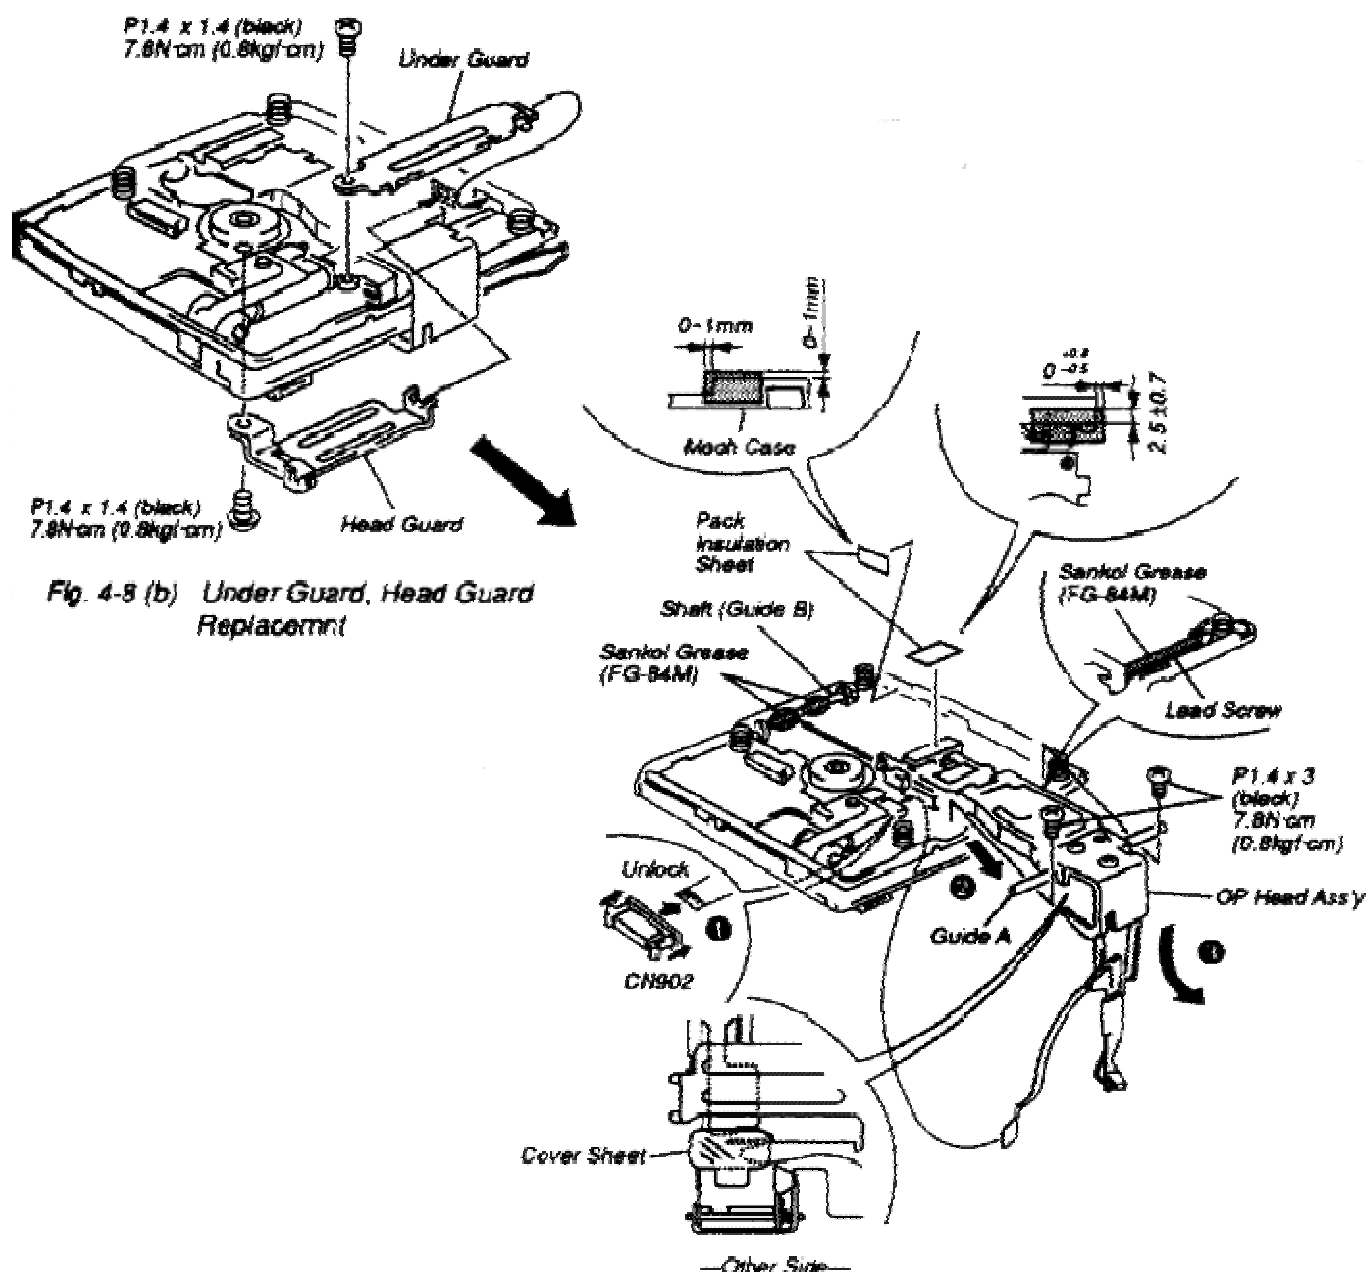

Fig. 4-8 (c) OP Head Ass'y Replacement and Grease Application Location
Note: Before installing, apply Sankol Grease (FG-84M) to the Lead Screw and the shaft (guide B). (Refer to Fig. 4-8(c))
- a. Remove the Washer from shaft with Tweezers and then pull the Gear (Worm Wheel) up. (Refer to Fig. 4-8(d))
Note: Before installing, apply Diamond Oil (NT-68) to the chassis. (Refer to Fig. 4-8(d))